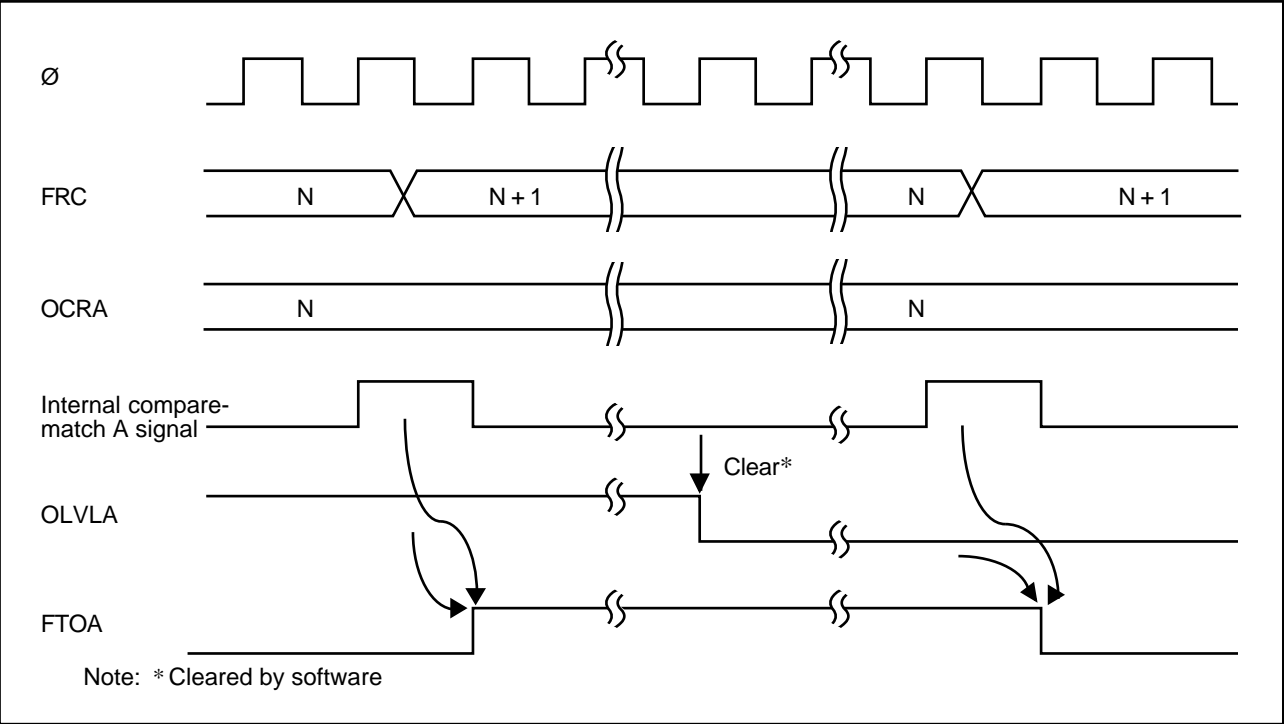

Figure 6-9. Timing of Output Compare A
(2) Output Timing: When a compare-match occurs, the logic level selected by the output level bit (OLVLA or OLVLB) in TOCR is output at the output compare pin (FTOA or FTOB). Figure 6-9 shows the timing of this operation for compare-match A.